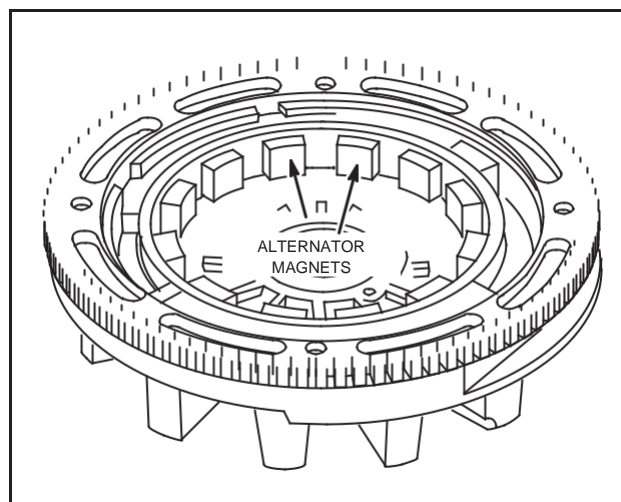

Fig. 7 – Alternator Magnets
Intek OHV-Twin Cylinder Flywheels have a single ring of magnets which provide the magnetic field for the various alternator systems. There are two (2) sizes of alternator magnets. The size of the magnet determines the alternator output Fig. 7.